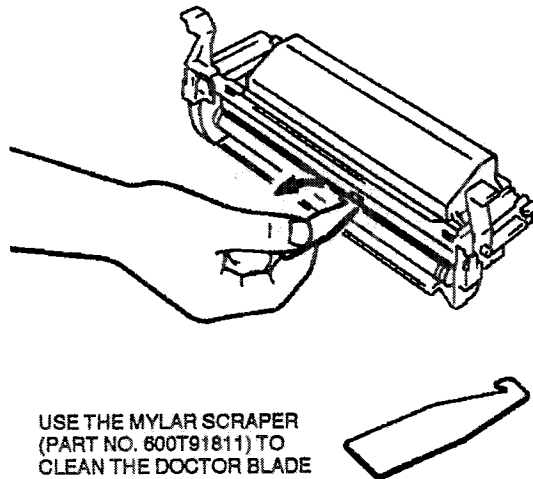

Figure 2. Doctor blade cleaning
6. (Figure 2) Clean the developer unit doctor blade.